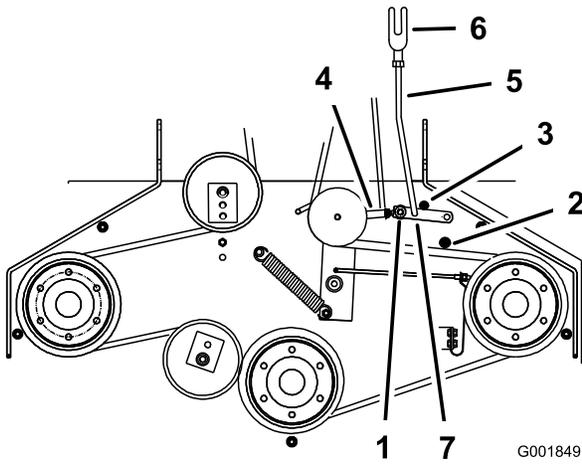

Figure 42
- Make sure the assist arm is against the rear assist arm stop on the deck (Figure 42).
- The assist arm should contact the front assist arm stop on the deck. If it does not contact, adjust the bellcrank so it is closer to the gusset (Figure 42).
8. To adjust the assist arm link, remove the hairpin cotter pin from the assist arm (Figure 42).
11. Install the assist arm link into the assist arm and secure it with the hairpin cotter pin (Figure 42).